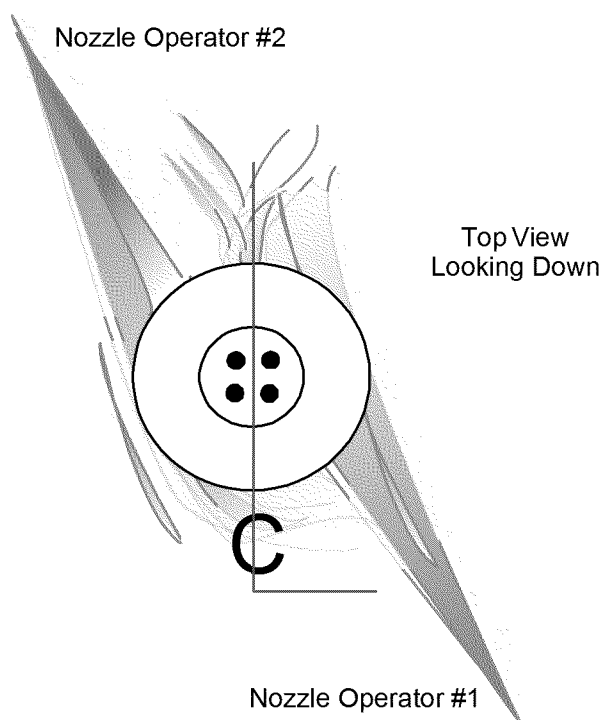

Figure 5-4
- D. In Figure 5-4 below, the two nozzle operators have stayed just to the right of the vertical centerline of the post-type insulator. Staying together and moving nozzles up and down the insulator produces a slight, swirling effect carrying water around the insulator.